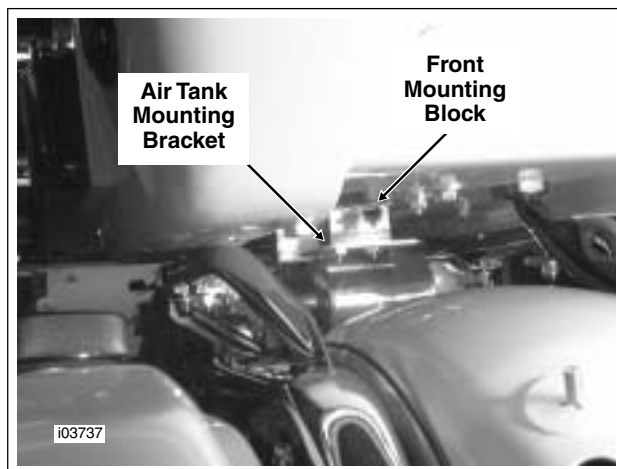

Figure 8-38. Install Tour-Pak Front Mounting Block
15. See Figure 8-38. Install flat washers to Phillips screws and position screws above two holes near front center of Tour-Pak above front mounting block position.